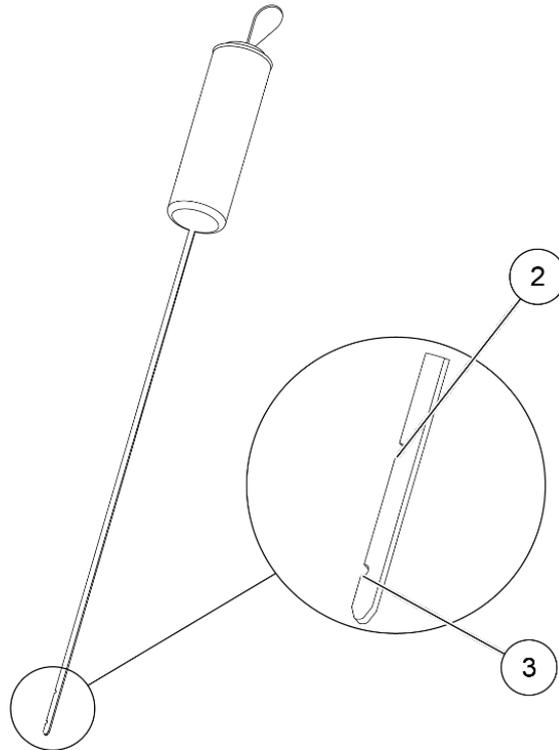

Figure 6-9 Oil dipstick
(1) Oil dipstick
Step 4: Check and record the oil level, and insert the oil dipstick back as shown in Figure 6-9;